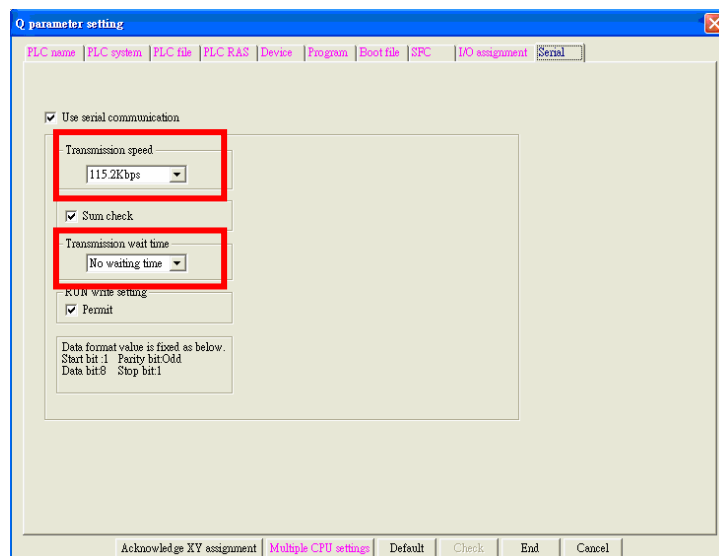

Fig. 8 Setting Parameters
- Setting of the PLC software serial parameters: configure to use serial communication, select the transmission speed, and set RUN to write mode, as shown in Figure 8 .